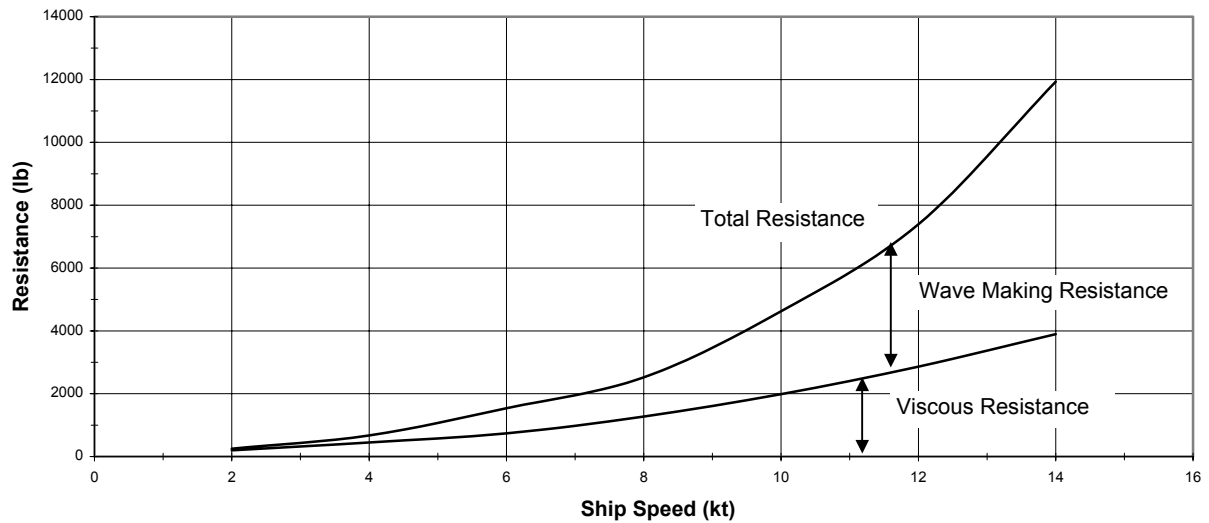

Figure 1: Components of YP total hull resistance
3. Figure 1 on the following page is a graph showing the components of resistance for a YP hull. Note how the wave making component of resistance increases as speed increases. At speeds of 4, 8, and 14 knots, what percentage of the total resistance can be attributed to wave making?